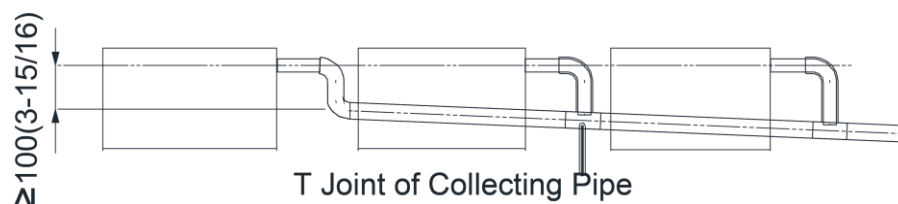

Fig 4.3.4
- (4) When connecting several drain pipes, follow the instruction as indicated in Fig 4.3.4.